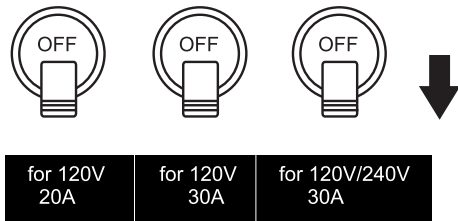

Figure 34. Auxiliary Circuit Breakers (OFF)
2. Place auxiliary circuit breakers (Figure 34) in the **OFF** position.